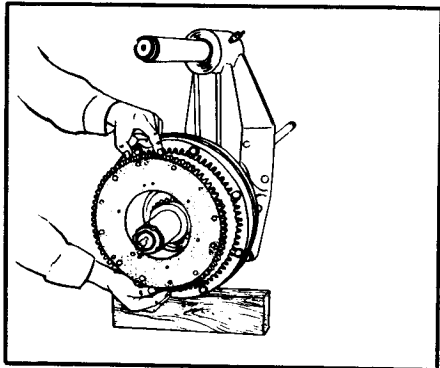

Figure 17 Removing Drive Plate
cone assembly (6) from the end of the shaft. Pull out the adjusting pin and unscrew the adjusting yoke assembly (7) and remove. Remove the floating plate and the first driving plate, Figure 17. Remove the six release springs and pull out the center plate. The second driving plate may now be easily removed.